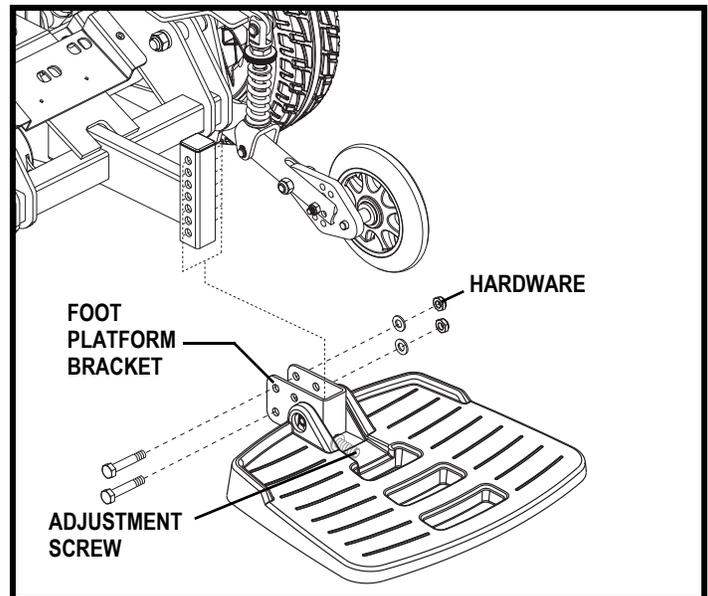

Figure 15. Select Foot Platform Adjustment
1. Remove the hardware from the foot platform bracket. See figure 15 or 16.
You can adjust the angle of the foot platform. See figure 15 or 16.